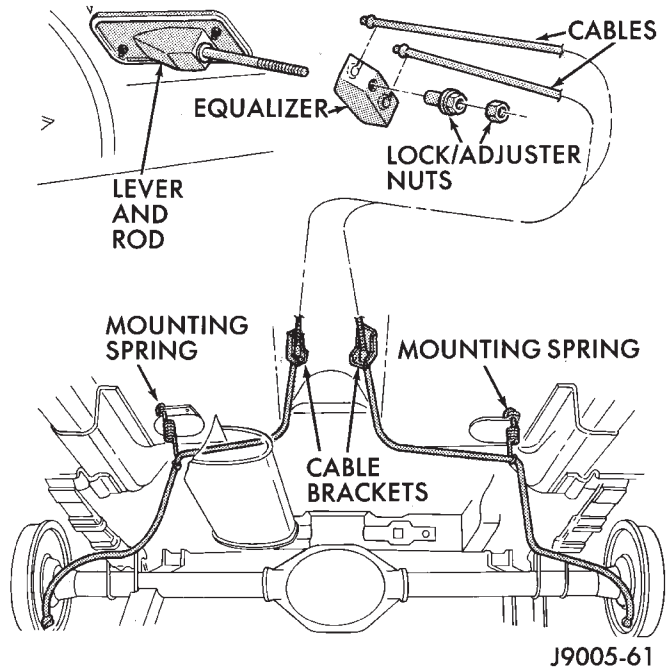
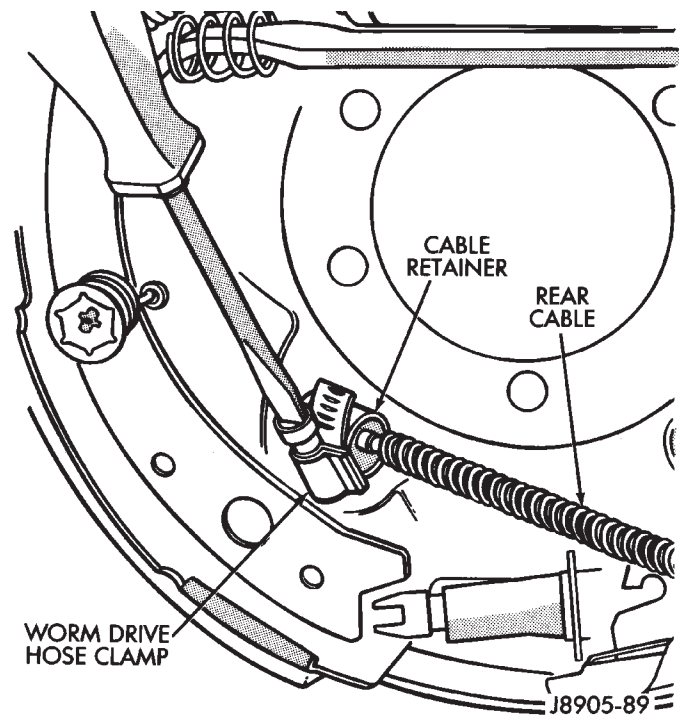
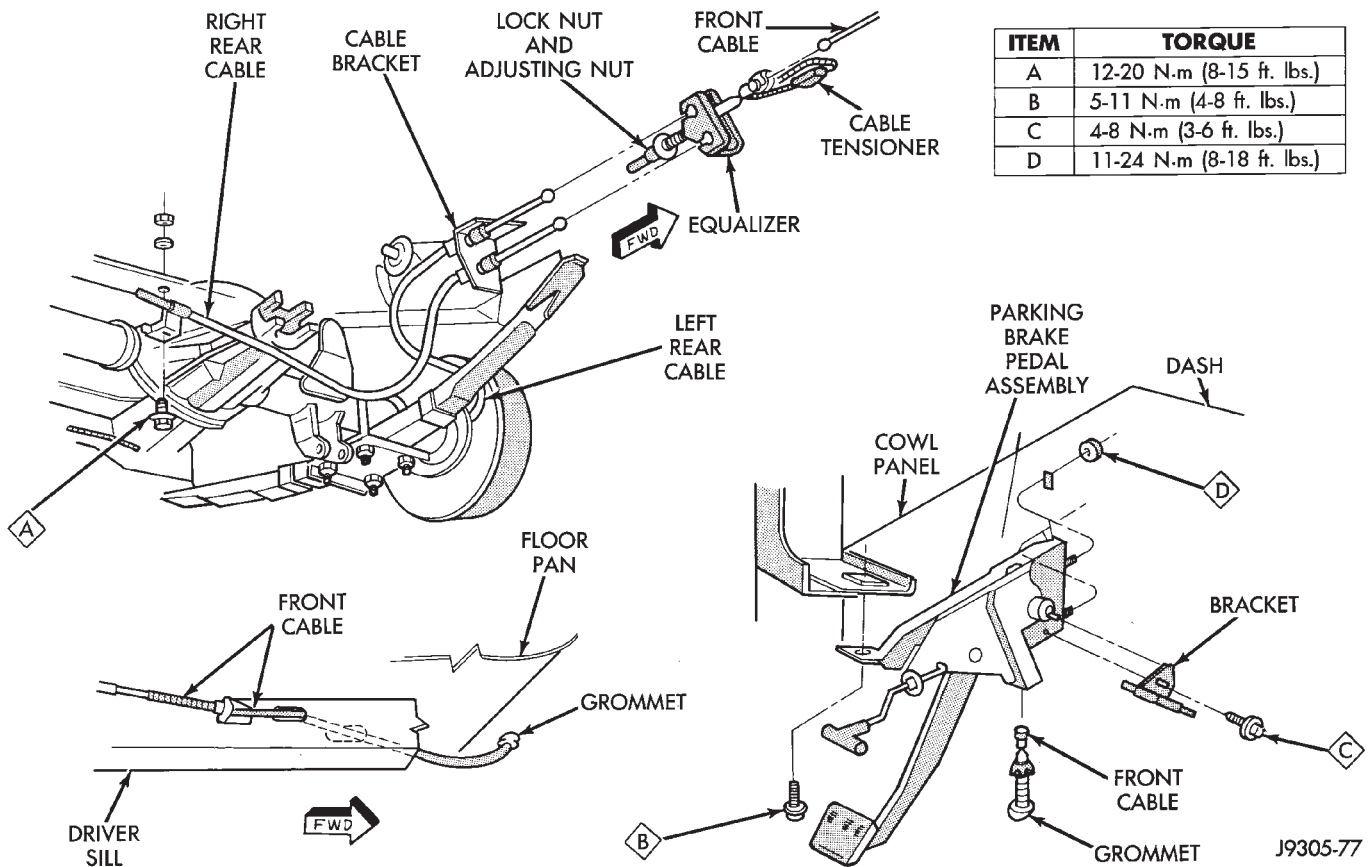

Fig. 13 Parking Brake Cables (XJ)
Fig. 14 Compressing Rear Cable Retainer
Fig. 15 Parking Brake Cables (YJ)
- (1) Raise vehicle and loosen equalizer nuts until rear cables are slack.
- (2) Disengage cable from equalizer and remove cable clip and spring (Fig. 13).
- (3) Remove rear wheel and brake drum.
- (4) Remove secondary brakeshoe and disconnect cable from lever on brakeshoe.
- (5) Compress cable retainer with worm drive hose clamp (Fig. 14) and remove cable from backing plate.
- (6) Install new cable in backing plate. Be sure cable retainer is seated.
- (7) Attach cable to lever on brakeshoe and install brakeshoe on backing plate.
- (8) Adjust brakeshoes to drum with brake gauge.
- (9) Install brake drum and wheel.
- (10) Engage cable in equalizer and install equalizer nuts (Fig. 13).
- (11) Adjust parking brakes. Refer to procedure in this section.
- (1) Raise vehicle.
- (2) Remove equalizer nuts (Fig. 15).
- (3) Remove front cable from equalizer (Fig. 15).
- (4) Remove cable-to-frame bracket clip.
- (5) Lower vehicle.
- (6) Move front carpeting away from pedal.
- (7) Compress clip securing cable to pedal frame (Fig. 15). Use hose clamp to compress clip.
- (8) Disconnect cable from pedal retainer and remove cable.
- (9) Remove grommet (Fig. 15) from old cable and transfer it to new cable, if necessary.
- (10) Install new cable in floorpan and connect it to pedal assembly.
- (11) Seat cable grommet in floorpan.
- (1) Raise vehicle and loosen equalizer nuts (Fig. 15).
- (2) Remove clamp and cotter pin attaching rear cable to equalizer and remove cable.
- (3) Remove cable clips.
- (4) Remove rear wheel and brake drum.
- (5) Remove secondary brakeshoe and disconnect cable from lever on brakeshoe.
- (6) Compress cable retainer with hose clamp (Fig. 14) and remove cable from backing plate.
- (7) Install new cable in backing plate. Be sure cable retainer lock tabs are engaged in plate.
- (8) Install secondary brakeshoe.